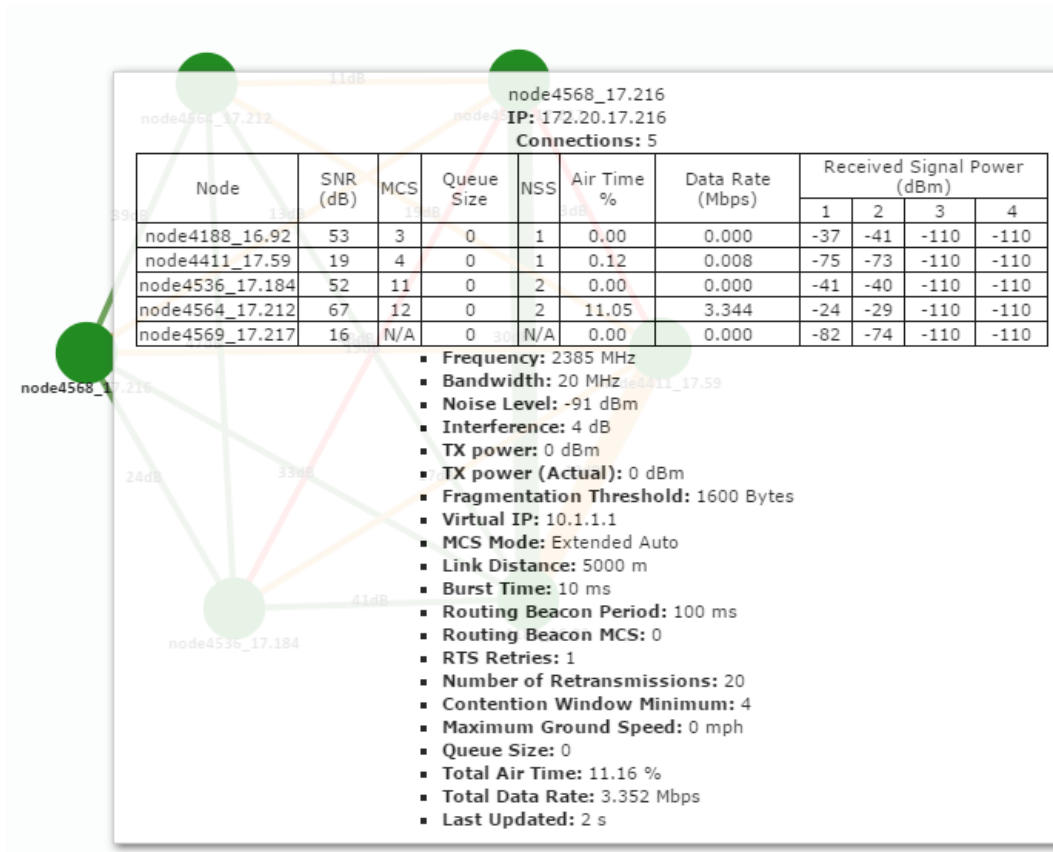

Figure 41 Individual Node Characteristics
- **Individual Node Characteristics** – By simply rolling the mouse over any node in the network, users can view key operating characteristics of the node. **Figure 41** shows an example of this for ‘node4568’. The characteristics shown are: